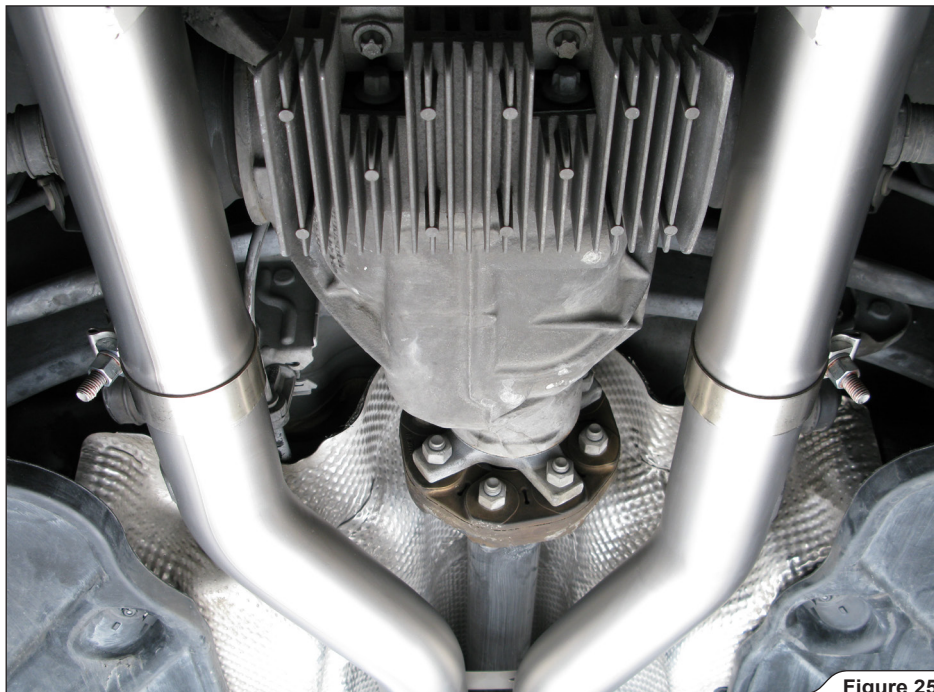

Figure 25
9. **For Evolution only:** slide the right muffler pipe onto the right middle pipe first, then slide the left one onto the left and hand tighten the clamps (**Figure 25**).